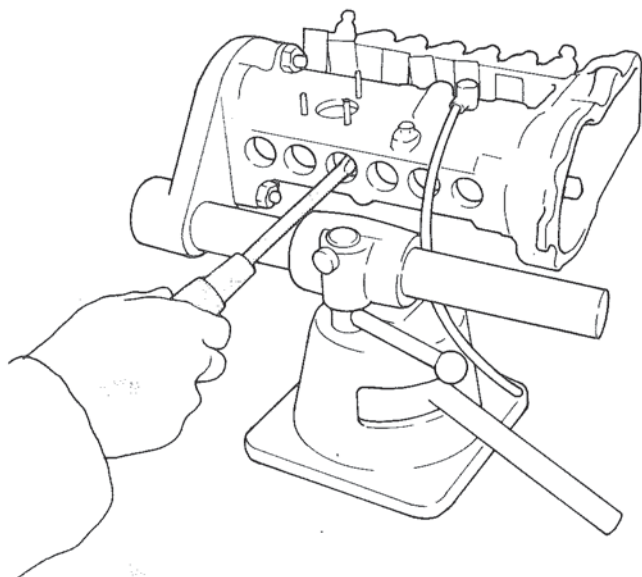

Figure 26. Removing Center Bearing Set Screw.
D. Remove center bearing set screw. Figure 26.